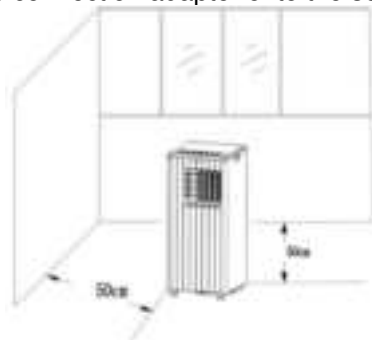
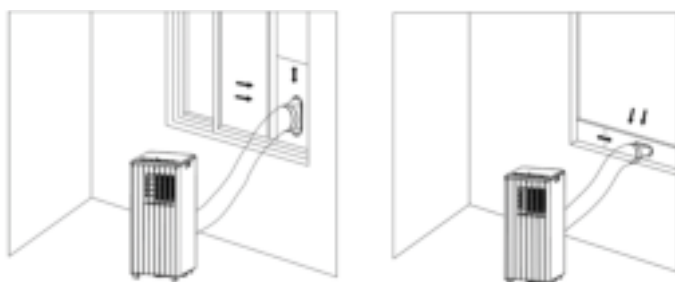

Fig. 3
Fig. 4
- 2.1. Open the window halfway and install the assembled sealing plate on the window (as shown in fig. 3 and fig. 4). Components can be placed in horizontal and vertical directions.